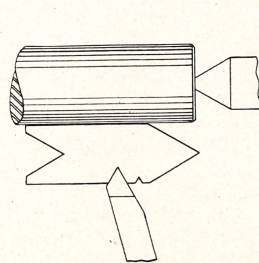
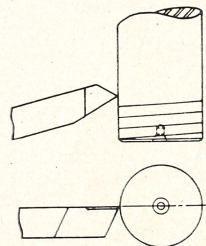

Fig. 13
Fig. 14
**THREAD CUTTING.** After some practice, threads of any description can be cut on this lathe. The following explains only the U.S.S., or National Coarse Thread, as this is the most common. To cut accurate threads, it is of primary importance that the cutting tool be ground to the proper angle. For this purpose a thread gauge of the type shown in Fig. 13 is employed. Place the gauge along the work as shown and run the tool into the triangular notch. Inaccuracies can be immediately detected and remedied. The point of the tool should be exactly at the center of the work. (See Fig. 14.) Consult feed chart for proper gear arrangement. See that the threading dial is in mesh. Before starting to cut a thread read the following carefully: Cutting any